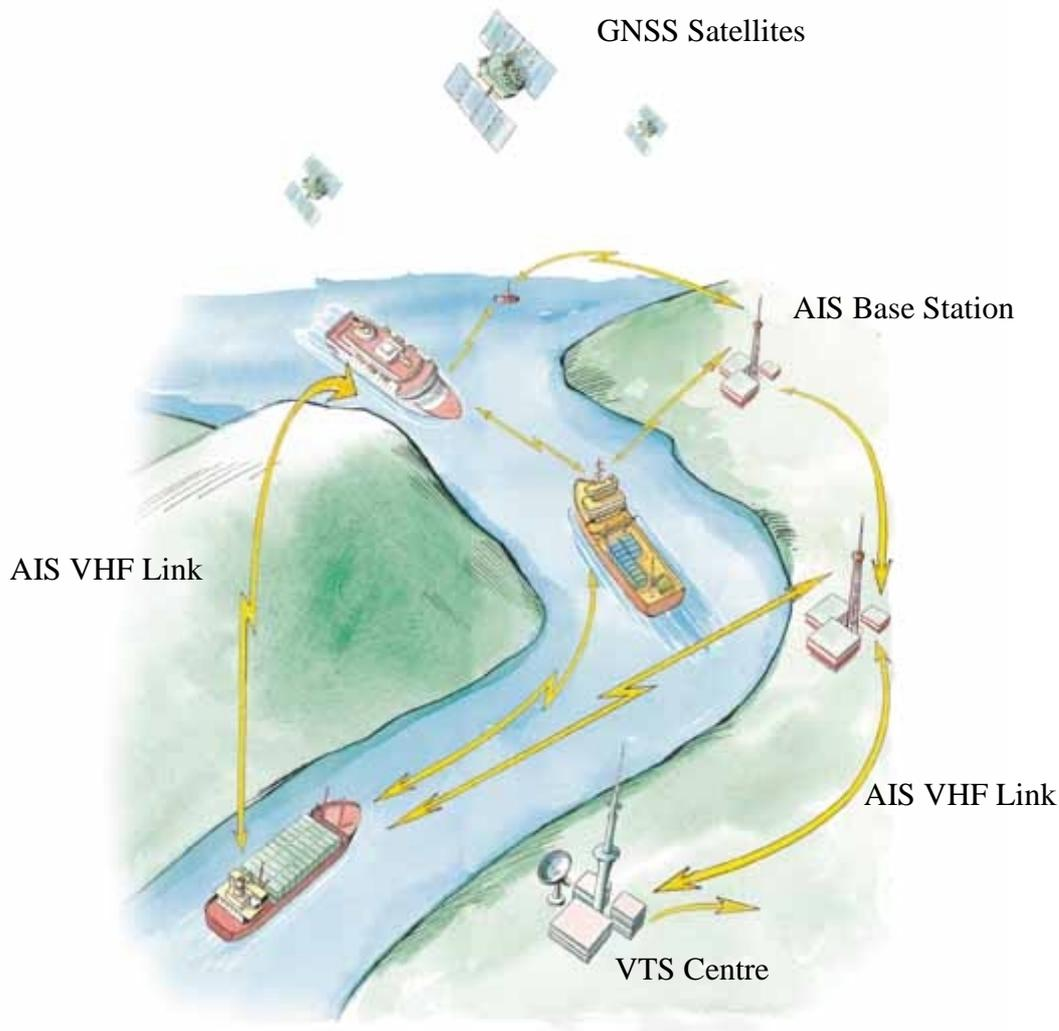

Figure 1 Elements in an AIS system
- Figure 1 Elements in an AIS system 4